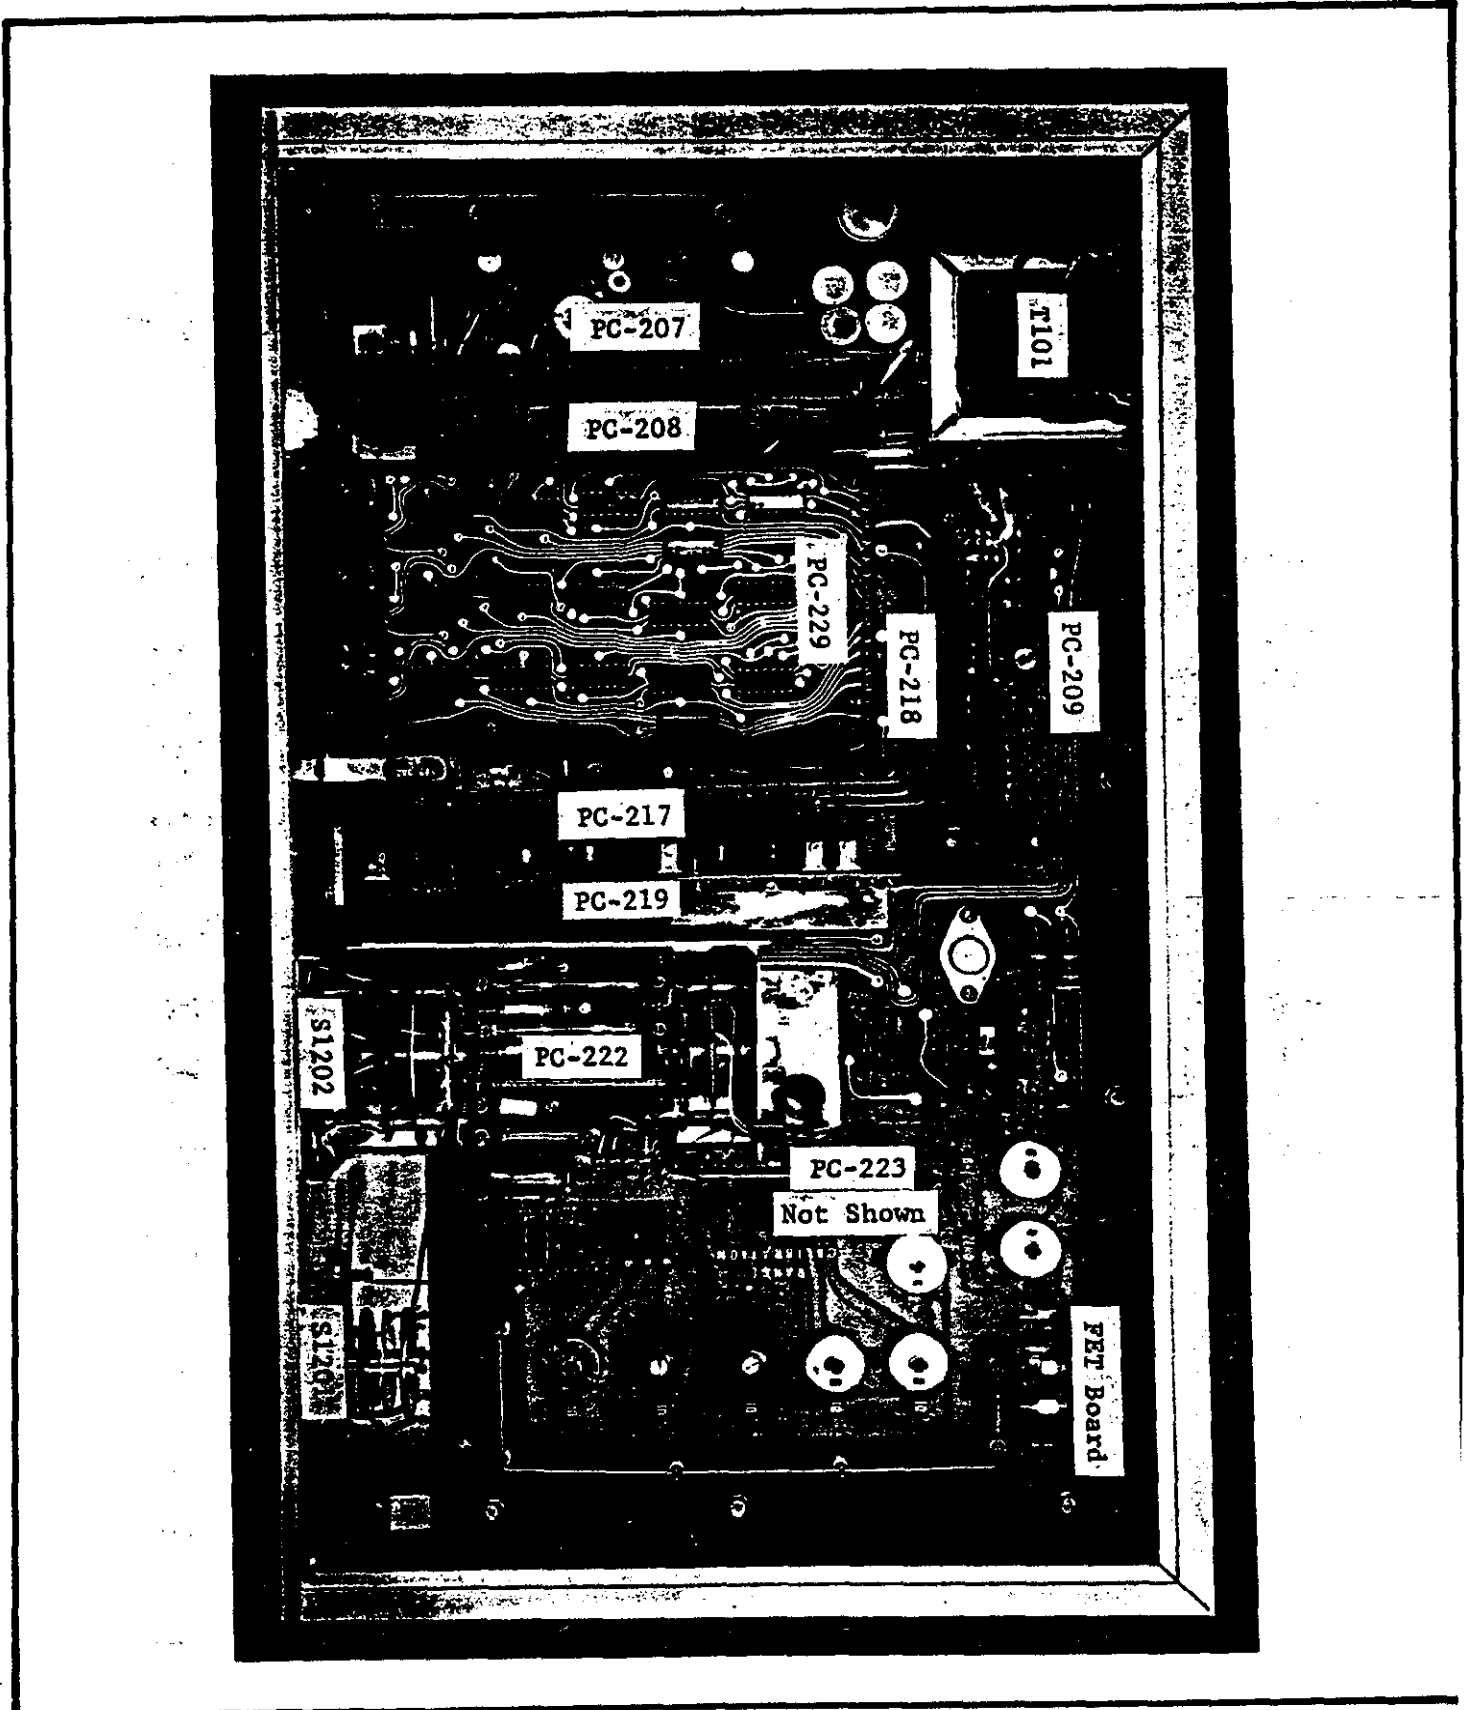

FIGURE 16. Location of Printed Circuit Boards.
a). "RS" Type Flip-Flop Circuit. The flip-flop gates the output of the clock depending on the inputs at pins R and S. The RS flip-flop is constructed of gates QA501B and QA501C. The pins are identified as shown in Figure 16.